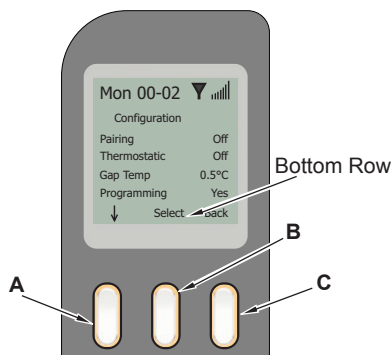

Figure 56 - Screen Changes
The screen changes depending on the input from the buttons, but the bottom row always displays the button function labels (see Figure 56). The functions of each button depends on the options available on the current screen (except for the OFF button which has always the same function).
- C (Back) button goes back to the previous screen (see Figure 56).
If manual is pressed, pilot appears as the selected setting. In the bottom row, ↓ and ↑ appear, indicating that the flame level can be change by pressing the left or middle button. Pressing back (right button) returns to the initial screen (see Figure 56, page 28).